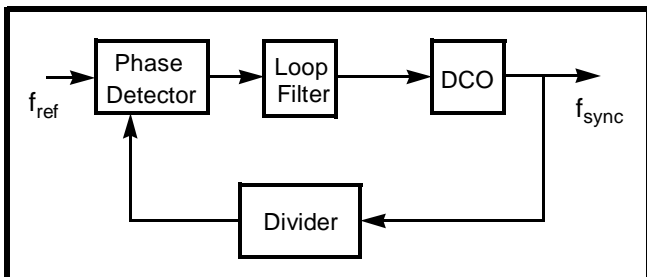

Figure 3 - PLL Block Diagram
As shown in Figure 3, the PLL of the MT9041 consists of a phase detector (PD), a loop filter, a high resolution DCO, and a digital frequency divider. The digitally controlled oscillator (DCO) is locked in frequency ( $n \times f_{ref}$ ) to one of three possible reference frequencies, configured using pins FSEL1 and FSEL2. The PLL is capable of providing a full range of E1/T1 clock signals synchronized to the primary PRI input. The loop filter is a first order lowpass structure that provides approximately a 2 Hz bandwidth.